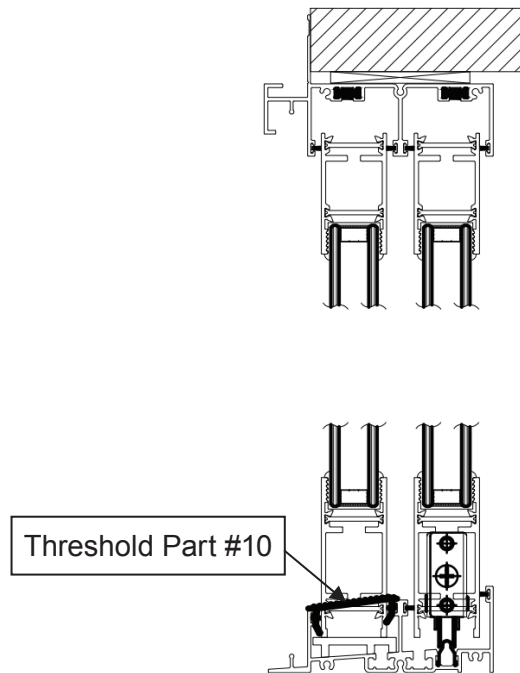

FIGURE 16
19. Install the threshold (Part #10) into the exterior sill track (Part #7) as shown in Figure 16.